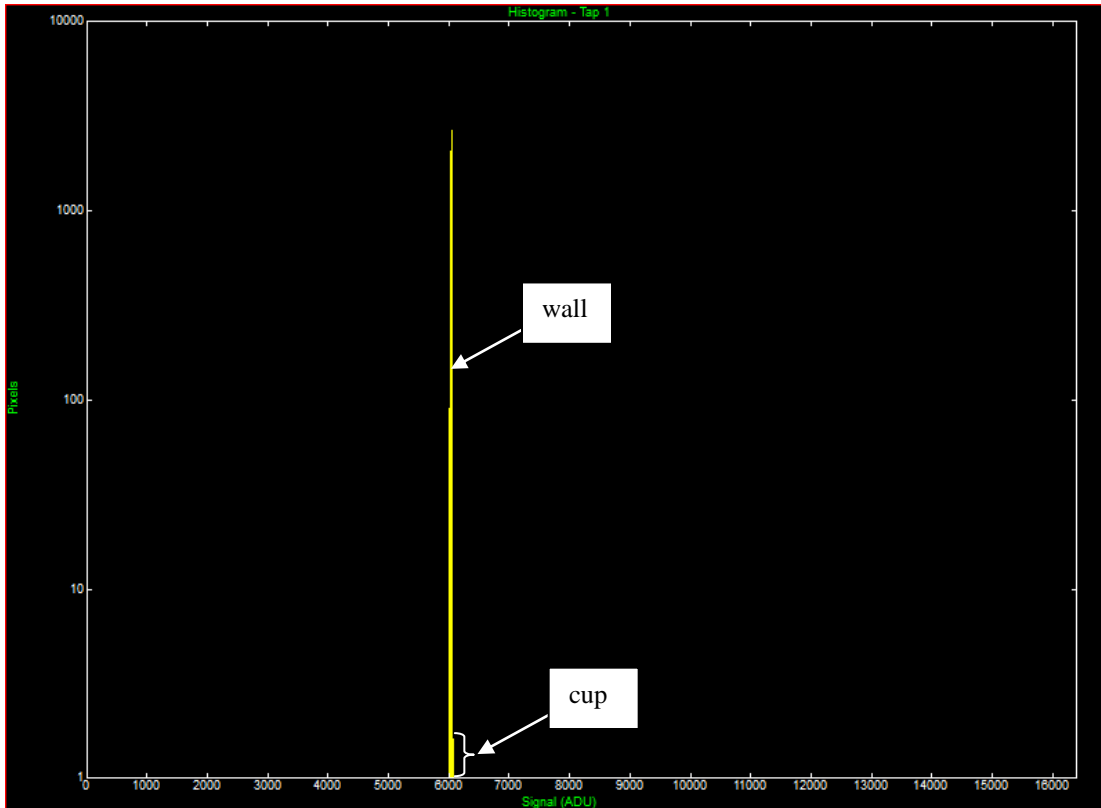

Figure 8: Low contrast scene in 14-bit space.
- Figure 8: Low contrast scene in 14-bit space 9